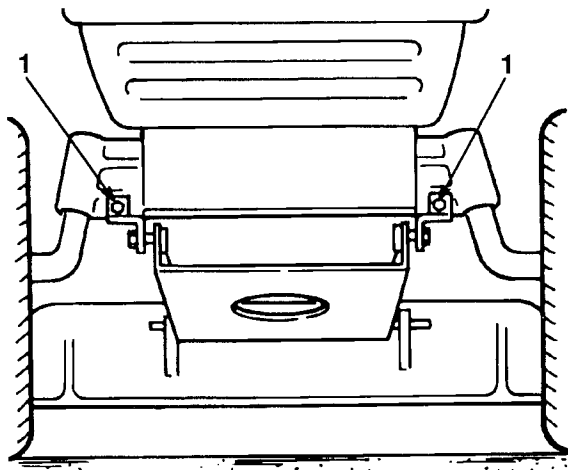

Figure 40
- Remove the bolts and lock nuts and pull the two mower pivot mount brackets down from the front axle (Fig. 40).